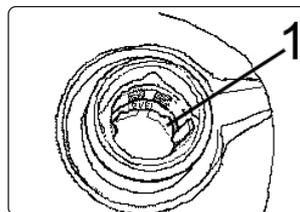

fig.3
- 6.2.1. To fill tank remove fuel tank cap and pour fuel into the tank up to the red line inside the filler tube fig.3.